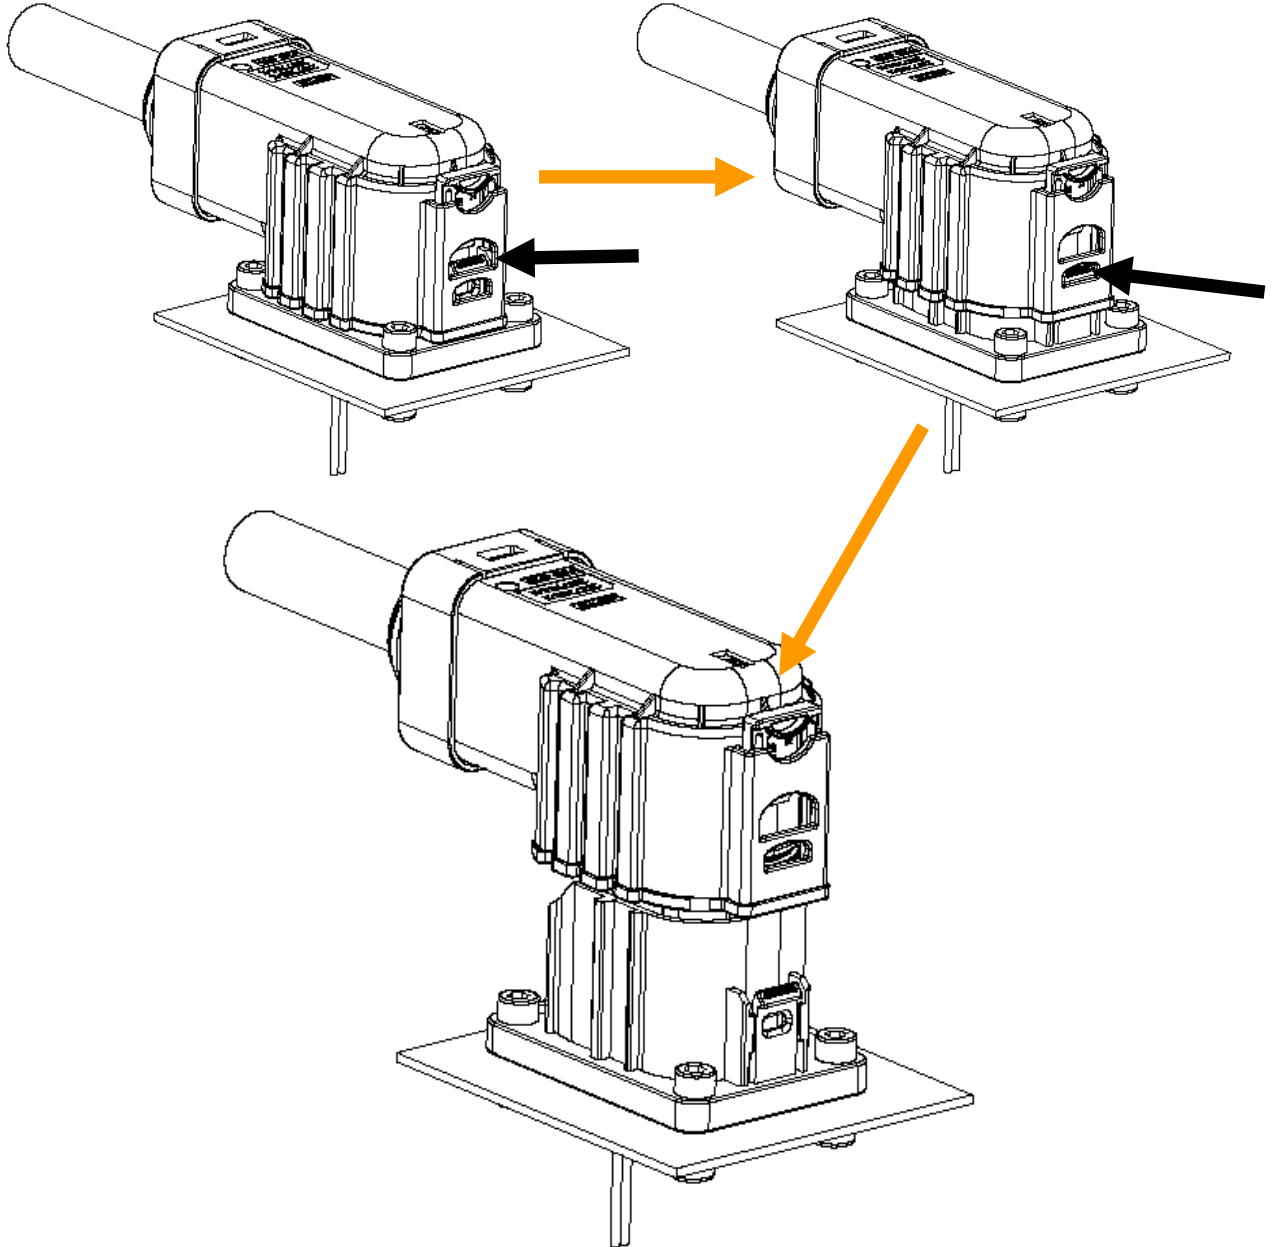

Figure 32: Connector totally released view
- B. Then press lock latch in pre-lock area with finger or other tool, at the same time, pull the HVP1100-1P plug assembly and header apart axially as shown in Figure 32. Do **NOT** pull on the cable
C. Press lock latch in second-lock area with finger or other tool, at the same time, pull the HVP1100-1P plug assembly and header apart axially as shown in Figure 32. Do **NOT** pull on the cable or cable seal retainer.
D. The plug and header assemblies are now totally disconnected as shown in Figure 32.